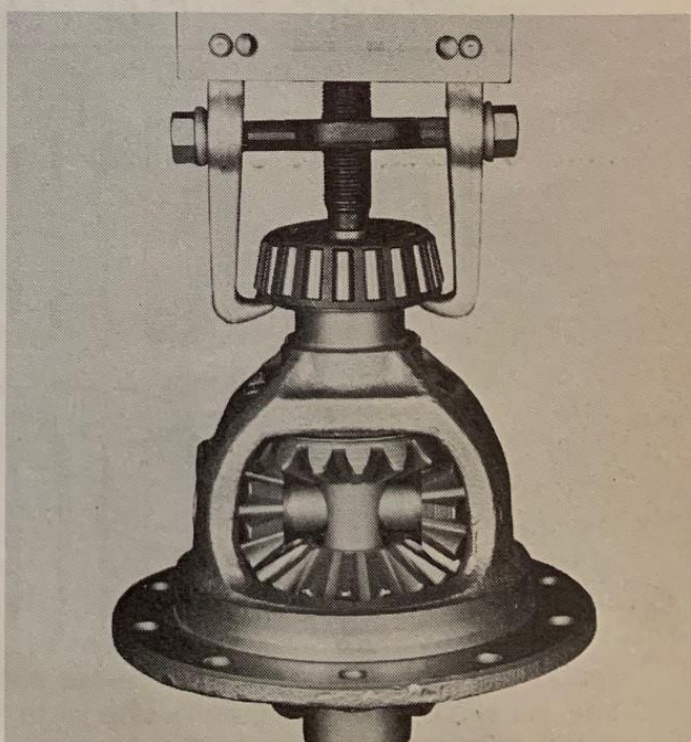

Fig. 4
8. Remove the ring gear. Remove the bearings and cups from the old Differential Case Assembly. Care must be taken to insure that the bearing puller is located in the Casting recesses of the case so as not to pull on the Roller Cage. (See Fig. 4.) Keep the bearing cups with their respective cones if they are re-usable; not worn or damaged.